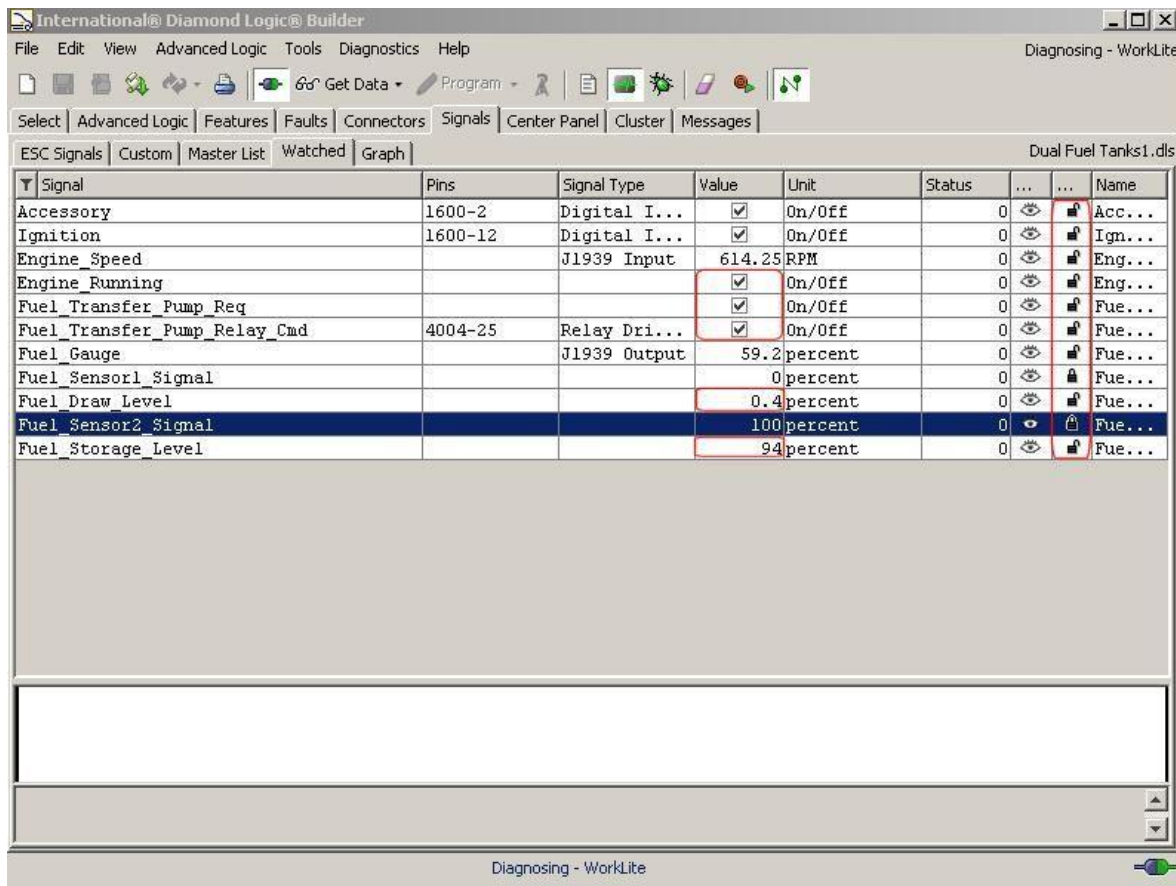

Figure 4.
2. Start the vehicle's engine. Note that the Engine RPM should be indicated and the Engine Running value box should be checked. Within 2 minutes the "Fuel Transfer Pump Req" and the "Fuel Transfer Pump Relay Cmd" on the DLB session window should turn ON (check in Value box) as shown in Figure 4. Note that Figure 4 shows the Fuel Storage Level at 94% and the Fuel Draw Level at 0.4% which meets the parameters for pump command to turn the transfer pump on. Remember the actual ESC command to turn the pump on will occur shortly after the Fuel Draw Level Value falls below the Fuel Storage Level as the two levels are conditioned by the ESC when it interprets the Fuel Sensor 1 Signal and the Fuel Sensor 2 Signal. The ESC does not activate the transfer pump based on the Fuel Sensor signals; it reacts to the **conditioned signals only - "Fuel Draw Level" and "Fuel Storage Level"**.